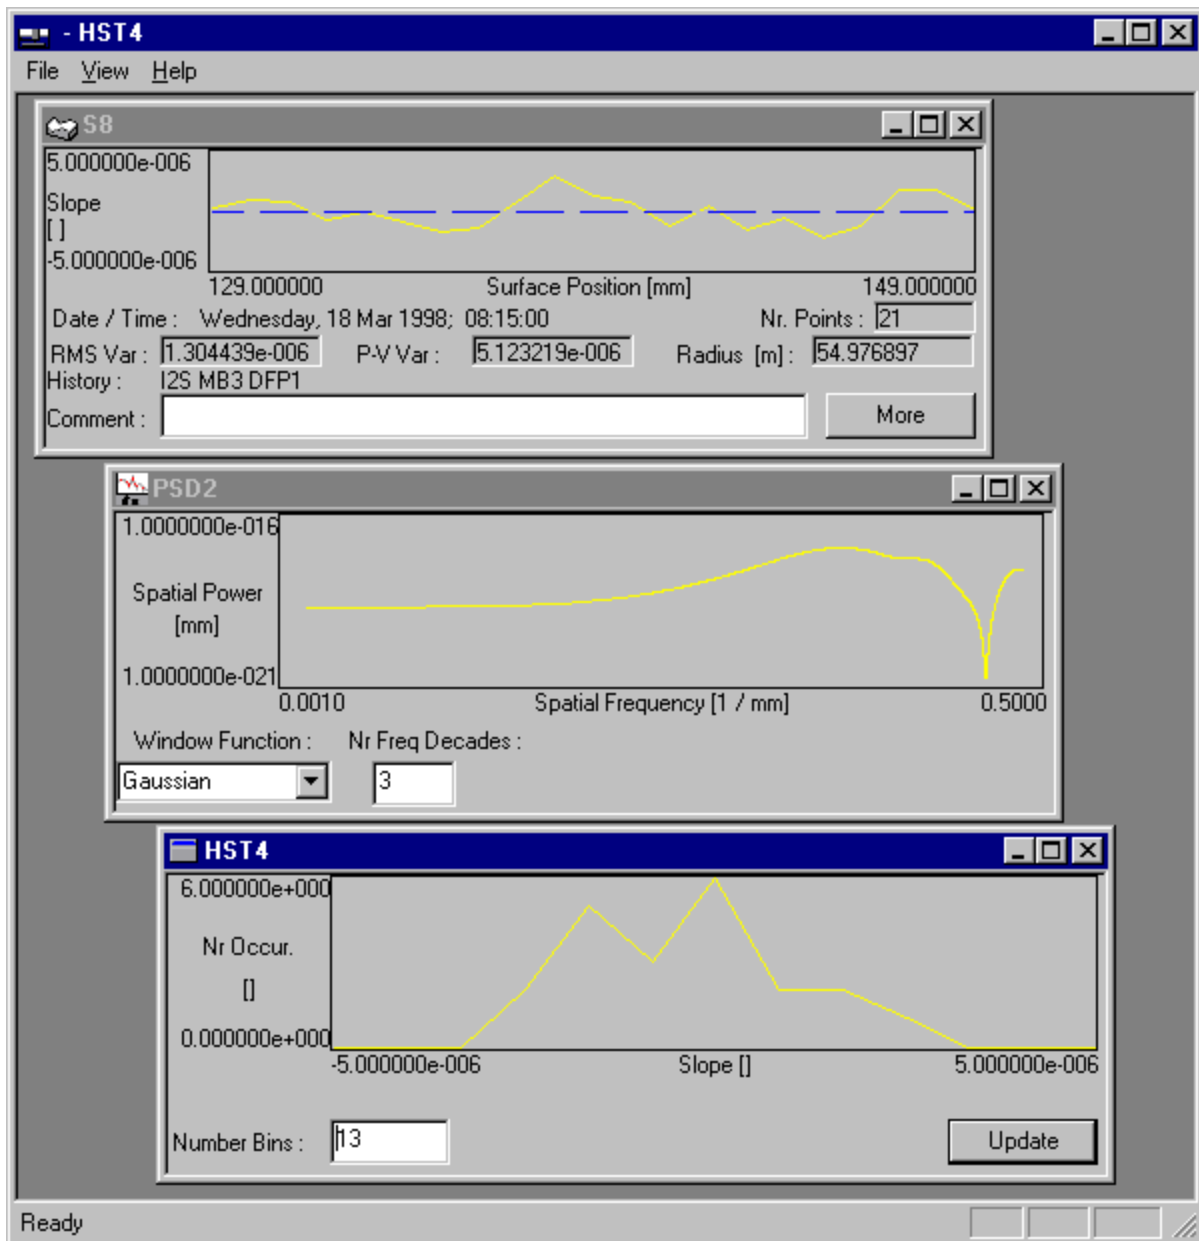

Figure 4.6 Power spectral density and Histogram plots.
4.12 The "Analyze" menu provides "Power Spectral Density" and "Histogram" plots of the active surface data window. Examples are shown in Figure 4.6.